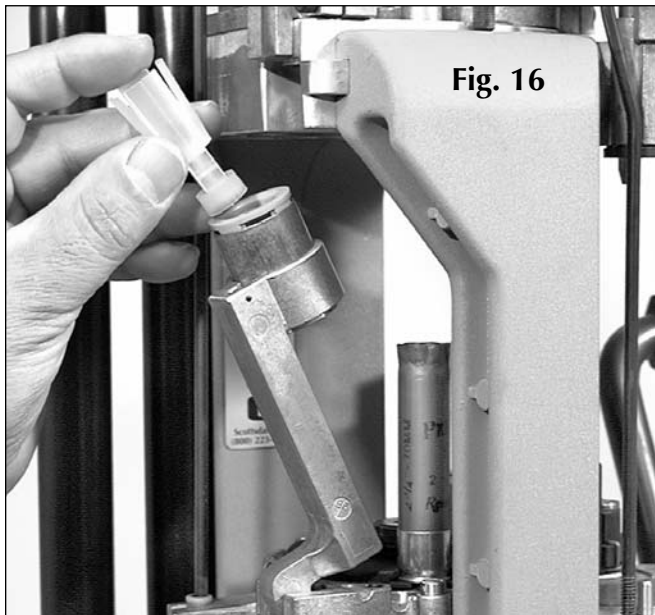

Fig. 16
15. Use the same hull with powder in it. At Station three, insert the wad into the wad swing arm and move the roller handle down. **Fig. 16**